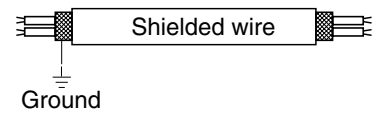

Fig. 5-4
- (5) Use shielded wires for inter-unit control wiring (c) and ground the shield on one side, otherwise misoperation from noise may occur. (Fig. 5-4)